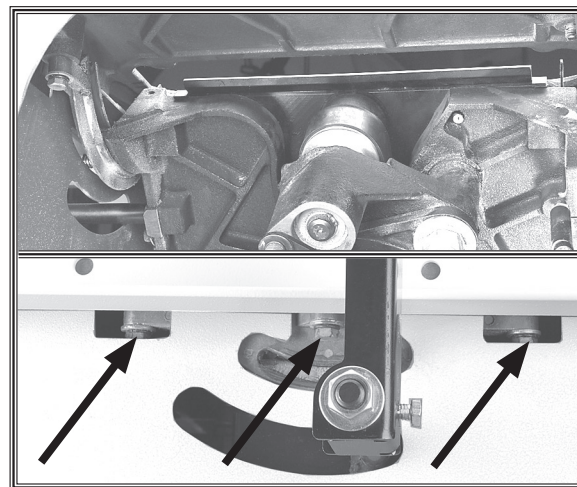

Figure 40. Trunnion bolt locations (not all the trunnion bolts are shown).
7. Loosen the trunnion bolts shown in **Figure 40**.
1. Loosen the trunnion bolts (Figure 40).